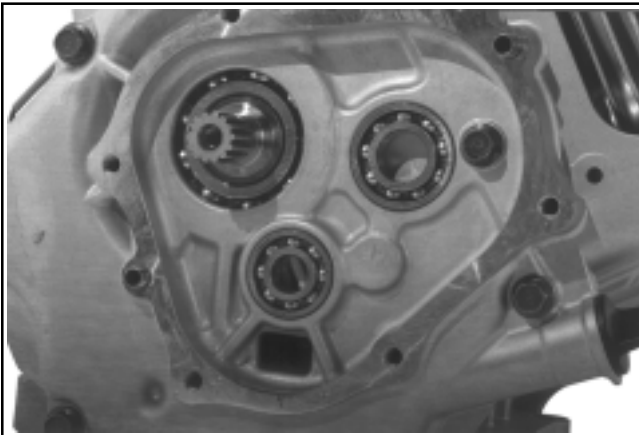

Figure 9-73. Removing Dowel Pins and Gasket.
6. Remove the dowel pins and gasket. Clean the gasket surfaces with a cleaning solvent or aerosol type gasket remover. **Do not nick or scrape the sealing surfaces.** See Figure 9-73.